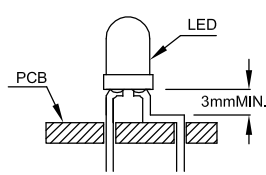

Fig. 5
5. Maintain a minimum of 3mm clearance between the base of the LED lens and the first lead bend. (Fig. 5 and 6)